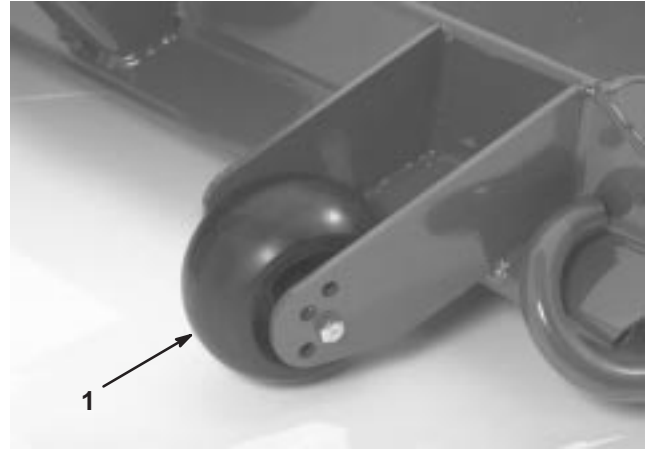

**Figure 14**
1. Remove the capscrew and nut securing the roller shaft to the cutting unit bracket (Fig. 14).